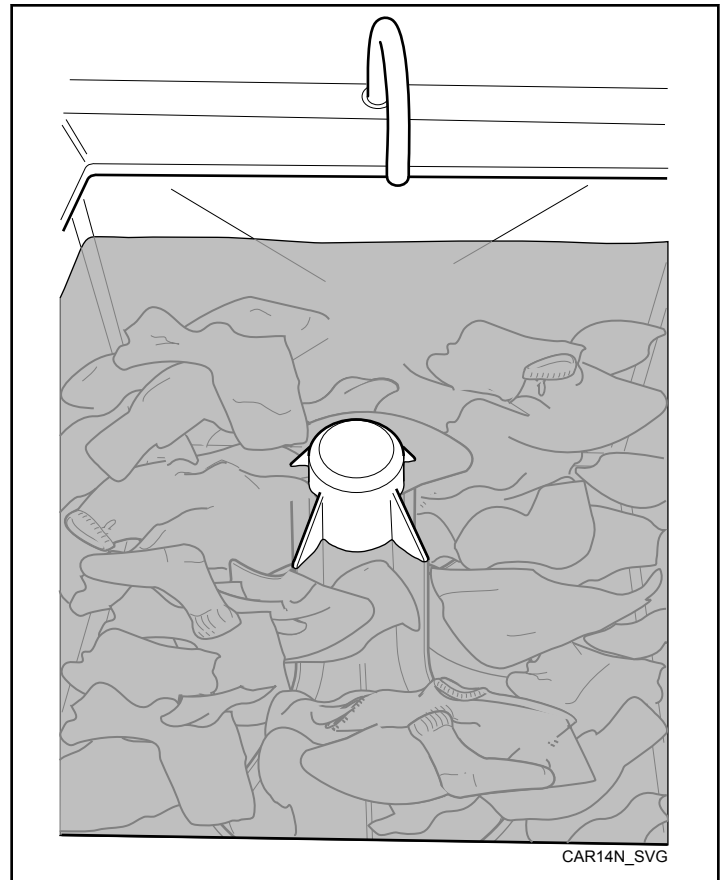

Figure 13
6. Place washables in compartment. Distribute evenly around agitator. Refer to *Figure 13*.